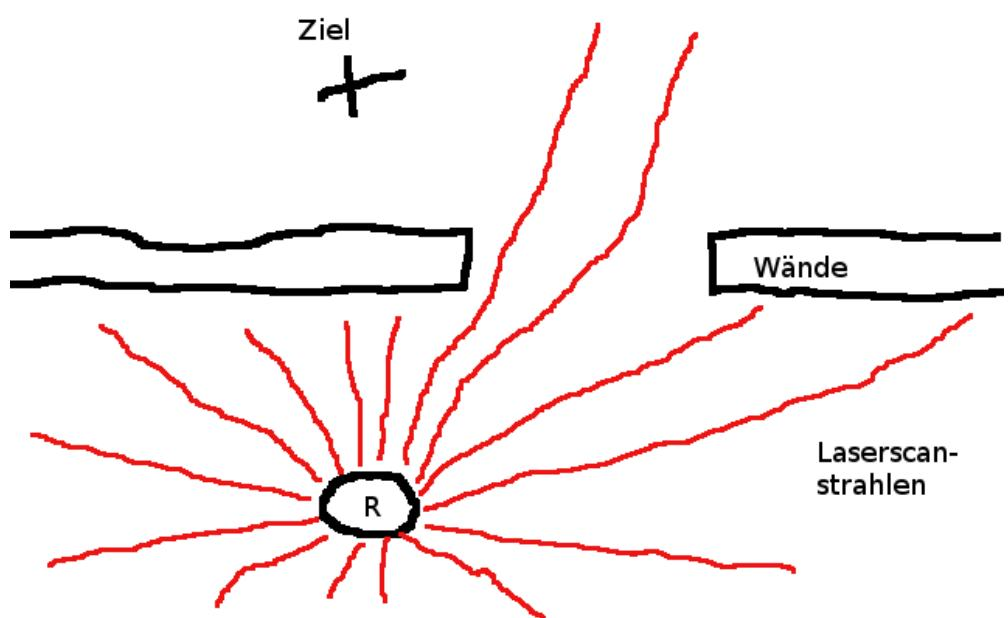

Figure B.2.: A Simple Navigation Task
- Sketch an algorithm for driving to the given destination (see Figure B.2) with the help of the laser scanner data.